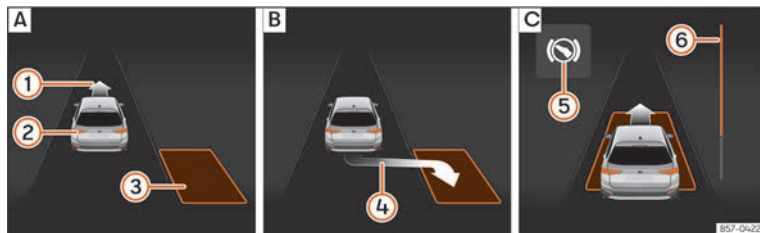
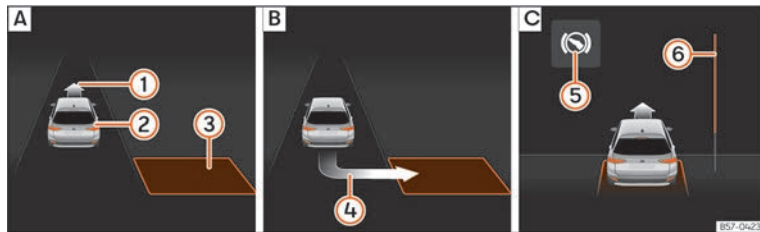

Fig. 140 On the instrument cluster display: parallel parking. **A**: Finding a parking space **B**: Parking position. **C**: Manoeuvring.
Fig. 141 On the instrument cluster display: angle parking. **A**: Finding a parking space **B**: Parking position. **C**: Manoeuvring.
- Look at the instrument cluster screen to see if the space has been detected as “appropriate” and if the correct position for parking has been reached »» Fig. 140 **B** or »» Fig. 141 **B**. The space is considered “appropriate” if the instrument cluster display shows the parking indication ④.
- Reverse until the continuous ParkPilot signal sounds; **OR:** reverse until the indication to move forward appears on the instrument panel display >>> Fig. 140 ⑥ or >>> Fig. 141 ⑥; **OR:** reverse until the **Park Assist finished** message appears on the instrument cluster display. The progress bar ⑥ indicates the distance to cover.
- Press the brake pedal until the parking assist system completes the steering wheel turns; **OR:** until the symbol ⑤ goes out on the instrument panel screen.
- Move forward until the continuous ParkPilot signal sounds; **OR:** move forward until the reverse indication appears on the instrument panel display. The Park Assist system steers the vehicle forward and back until it centres it in the space >>> Fig. 140 ⑥ or >>> Fig. 141 ⑥.
The progress bar >>> Fig. 140 ⑥ and >>> Fig. 141 ⑥ on the instrument cluster display shows the relative distance to be covered as a symbol. The greater the distance, the fuller the progress